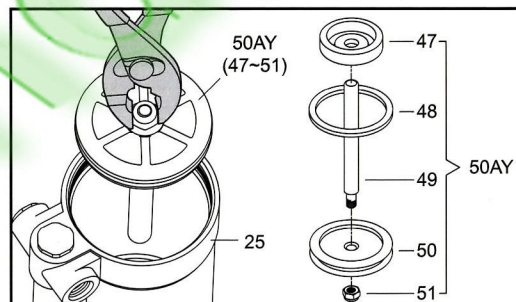

Fig. 7
2. Unscrew the Air Cylinder End Cap (53) & O-Ring (52) with the Wrench 22 (57), use a pair of pliers to slowly pull out the Air Piston Assembly (50AY) in a straight line. (Fig.7)
11. Use a pair of pliers to clamp the Air Piston Lock Nut (51), and then slowly plug the Air Piston Assembly (50AY) in a straight line into the Oil Cylinder (12) through the Oil Cylinder Lock Nut (29). (Fig.7) Finally reassemble the Air Cylinder End Cap (53) & O-Ring (52) with the Wrench 22 (57).